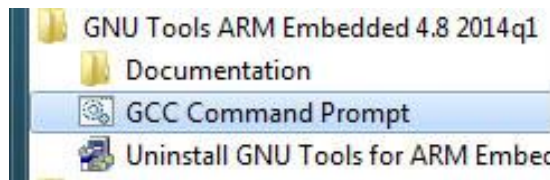

Figure 18 - GCC Command Prompt shortcut
1. Open a GCC Command prompt. When ARM GCC was installed a shortcut was created in the start menu as shown in Figure 18.